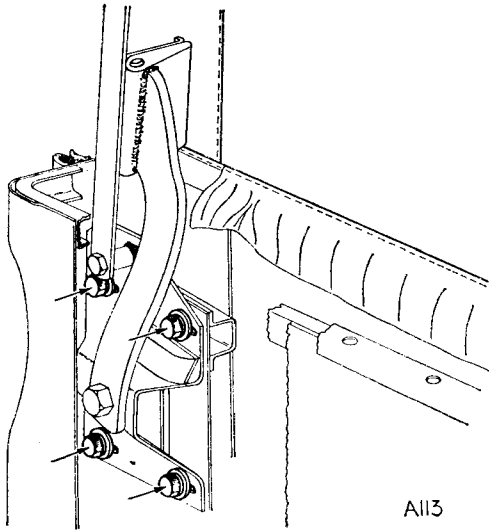

Fig. 53. Soft-top pivot mounting
1. Remove twelve screws (95), fasteners (96), washers (97) and nuts (98).
2. Detach the finisher strip (91), release the hood material from the body and drill out twelve rivets (3) retaining the plates (4) and the webbing (5) to the hood sticks and rear deck flange.
3. Release the head catch assemblies (7) on the screen rail and two snap-on clips securing the hood to the body side flanges.
4. Remove the trim quarter panels to gain access to the pivot mounting brackets (56) and (57). Release the bracket by removing the four securing bolts arrowed (Fig. 53). Lift the hood assembly from the body.